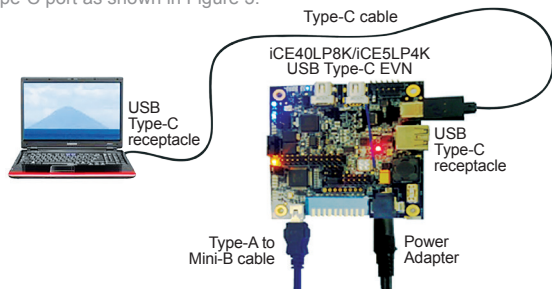

Figure 3: Type-C feature test setup
6. Connect Type-C cable between the USB Type-C demo kit V2 and PC/Tablet with Type-C port as shown in Figure 3.